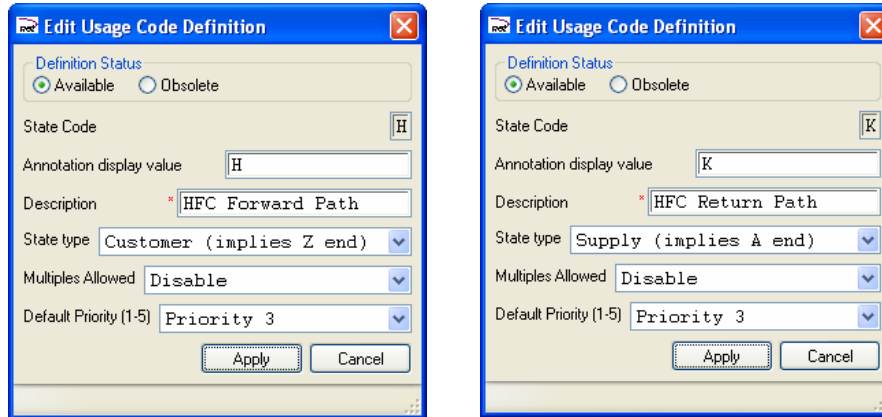

Figure 94 – New Usage Code Entry Forms
2. Click on the **Add** button and fill in the field values as shown in the left dialog box below (for the forward path), then close this by clicking on its **Add** button. Repeat this step but this time, fill in the values (for the return signal) shown in the right dialog box in Figure 94, below.